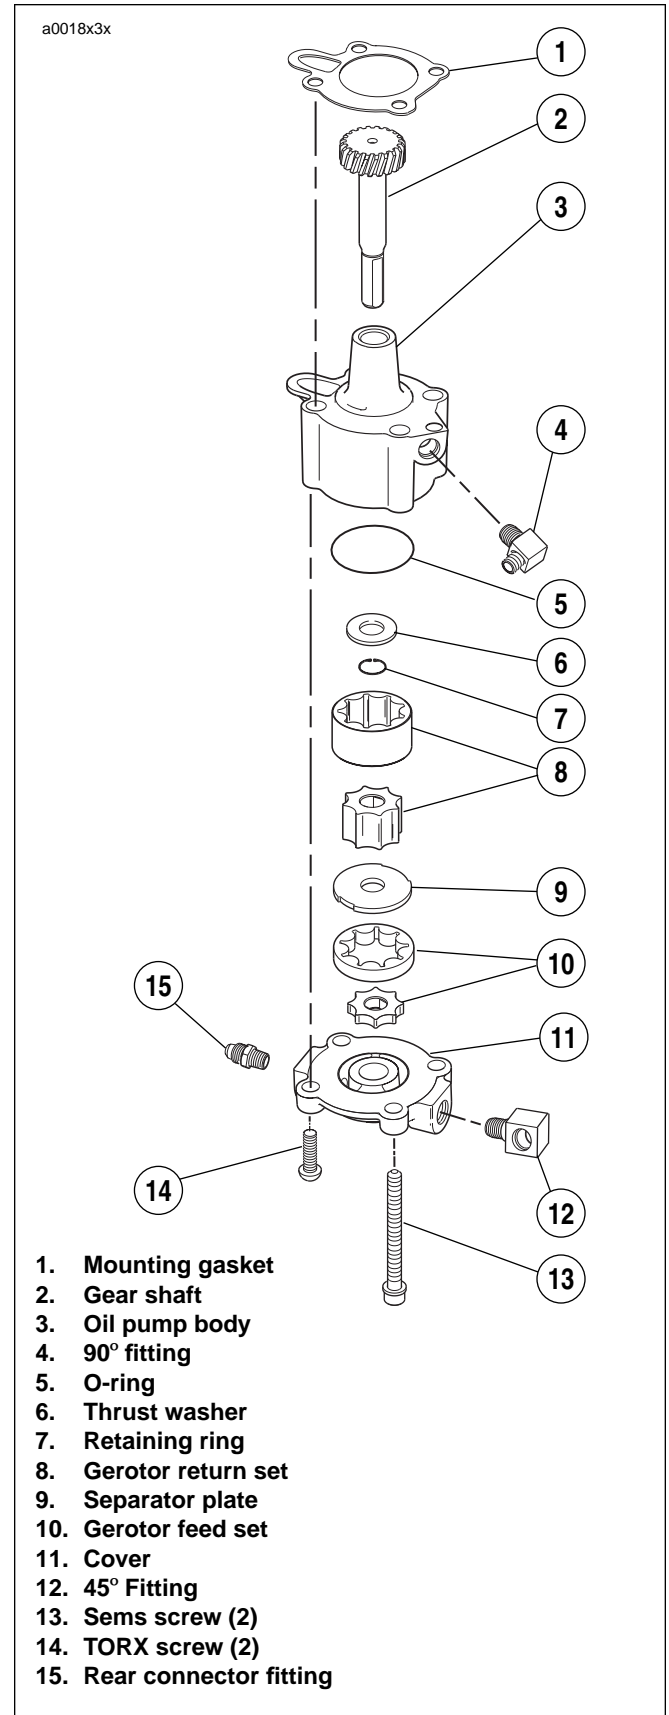

Figure 3-118. Oil Pump
See Figure 3-118. The oil pump consists of two gerotor gear sets, feed and return, housed in one pump body. The feed set distributes oil to the engine, the scavenge set returns oil to the tank/frame reservoir.
1. See Figure 3-118. Install gear shaft through body. Position thrust washer over end of shaft. Install **new** retaining ring into groove in shaft.
6. See Figure 3-118. Place gerotor feed set over gear shaft.